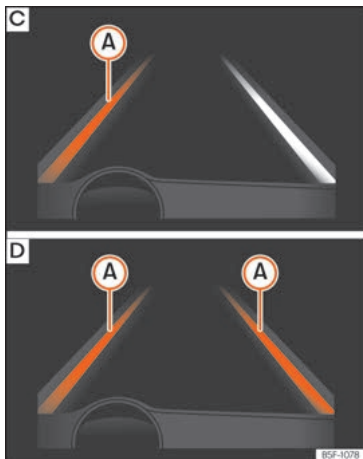

Fig. 279 On the instrument panel display: Indication on the Lane Assist system display (example 2).
- The system is operational, the highlighted line (A) indicates that there was a risk of involuntarily crossing the lane line and that the steering is being adjusted to correct the angle »» Fig. 279 C.
- The two highlighted lines (A) light up simultaneously when both lane lines are recognised and the Lane Assist function is active »» Fig. 279 D.